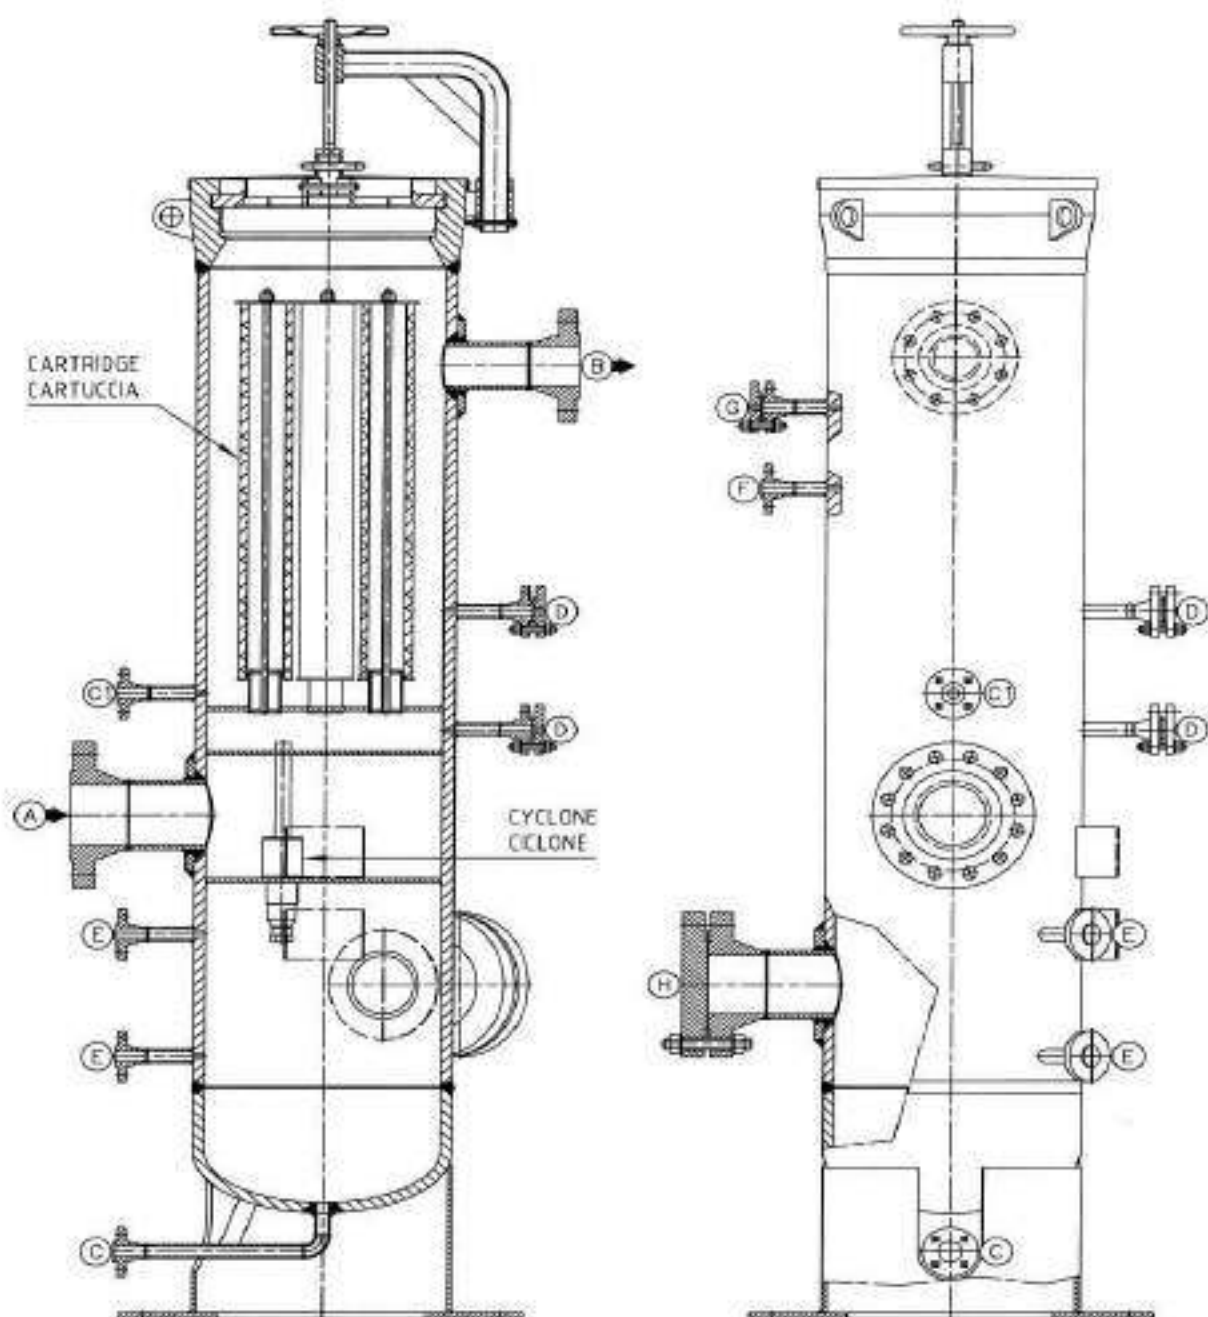

FIG. 1
- open the inspection port (figure 1 , pos H)